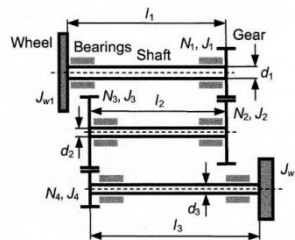

FIGURE 2.56
- 2.25** Three rigid shafts mesh through their respective gears as illustrated in Figure 2.56. Calculate the total mass moment of inertia of this system transferred to the middle shaft. The shafts have a mass density $\rho = 7800$ kg/m³ and are defined by $d_1 = 0.012$ m, $l_1 = 0.15$ m, $d_2 = 0.01$ m, $l_2 = 0.1$ m, $d_3 = 0.009$ m, and $l_3 = 0.13$ m. The following parameters define the four gears: the number of teeth $N_1 = 18$, $N_2 = 22$, $N_3 = 28$, $N_4 = 14$, their mass moments of inertia $J_1 = 6 \cdot 10^{-4}$ kg m², $J_2 = 8 \cdot 10^{-4}$ kg m², $J_3 = 9 \cdot 10^{-4}$ kg m², $J_4 = 4 \cdot 10^{-4}$ kg m², as well as the mass moments of inertia of the two end flywheels $J_{w1} = 1 \cdot 10^{-3}$ kg m² and $J_{w2} = 9 \cdot 10^{-4}$ kg m².